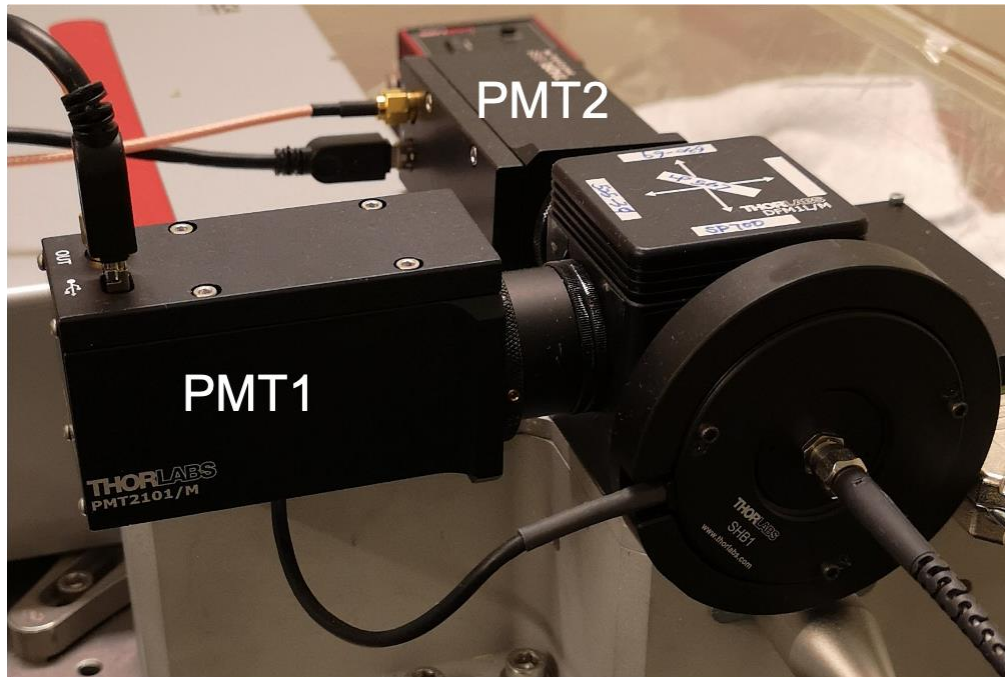

Figure 17: Kinematic cage connect to PMT shutter, TFB and PMTs assembled on top of the coupling box's cap.
**Step59.** Thread SM1 Coupler (item 18) to the Lens Tube with external side facing out.
**Step60.** Turn off any room light. Connect PMT1 (item 52) (green channel) after coupler of Step58. Rotate it clockwise until it is fixated. Adjust the position of the middle coupler such the PMT is in a vertical position.
**Step61.** Repeat steps 56 to 59 for the 630nm emission filter port and respective PMT2 (item 52) (red channel). The result is shown in Fig.17